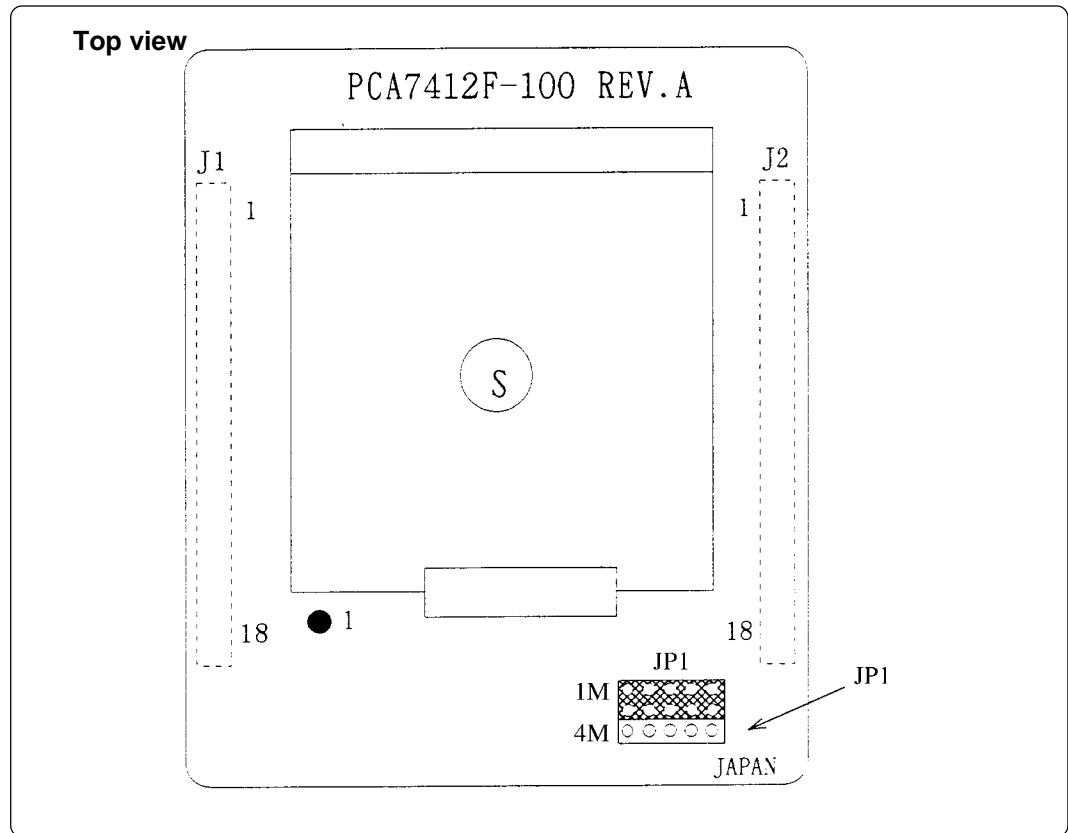

Figure 3.2 Position of the JP1 switch
The position of the JP1 and its default setting are shown in Figure 3.2. For how to set the switch, see Table 3.1.
- An example setting shown in Figure 3.2 is also applied to the PCA7412L-100, PCA7412G-100, and PCA7413F-80.